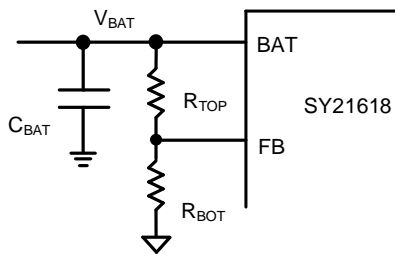

Figure3. Schematic of V_{BAT} under Sink Mode
Under sink mode, the VBUS pin is connected to the power input, the BAT pin is the power output and the FB pin is the feedback input. The output voltage V_{BAT} is programmed by external voltage divider (see Figure. 3) with the 1V internal voltage reference as given in equation (1)